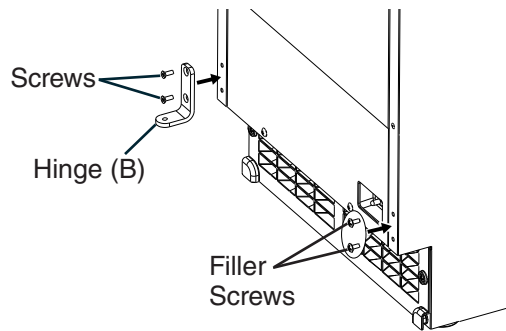

Fig. 4
- 4) Remove hinge (B) from the right side of the appliance and the 2 filler screws from the left side. Attach the 2 filler screws to the right side and attach hinge (B) to the left side. See Fig. 4.